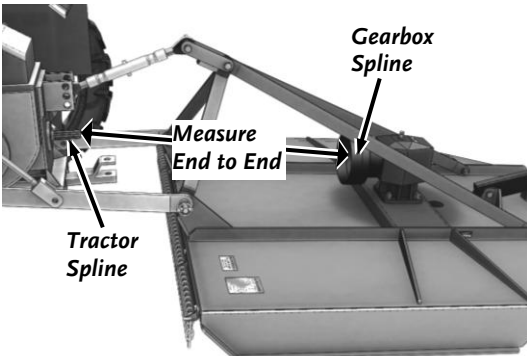

Figure 11: Low Position
1. Lower the Mower all the way to the ground in the operating position (Figure 11). Measure from the end of the Tractor Spline Shaft to the end of the Mower Gearbox Shaft and record this dimension in the "ON GROUND" row of the table above.